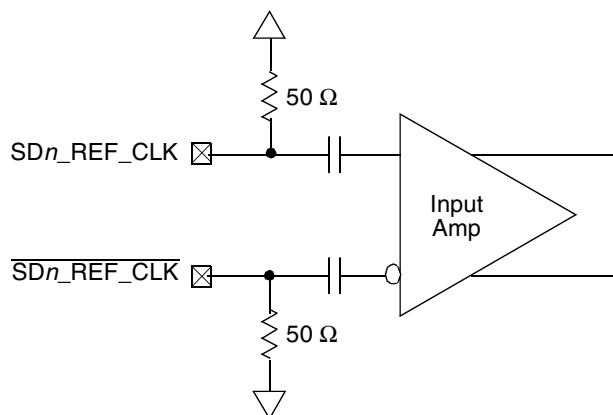

Figure 55. Receiver of SerDes Reference Clocks
Figure 55 shows a receiver reference diagram of the SerDes reference clocks.
- The SDn_REF_CLK and $\overline{\text{SDn_REF_CLK}}$ are internally AC-coupled differential inputs as shown in Figure 55. Each differential clock input (SDn_REF_CLK or $\overline{\text{SDn_REF_CLK}}$) has a 50Ω termination to SGND_SRDSn (xcorevss) followed by on-chip AC-coupling.